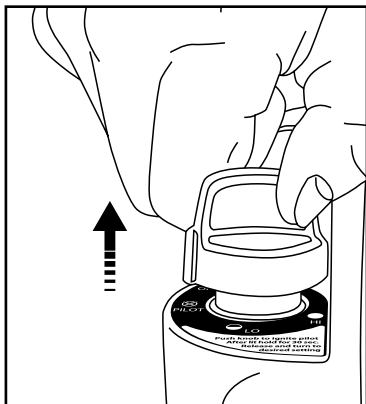

Figure 4: “Release knob.”
- After pilot lights, hold down for 30 -60 seconds and then release knob. Knob should return to fully extended position; see Figure 4. To operate heater slightly depress knob and gently turn to lock in the “HI” position to light burner tile. Leave on “HI” position until burner tile turns bright orange.